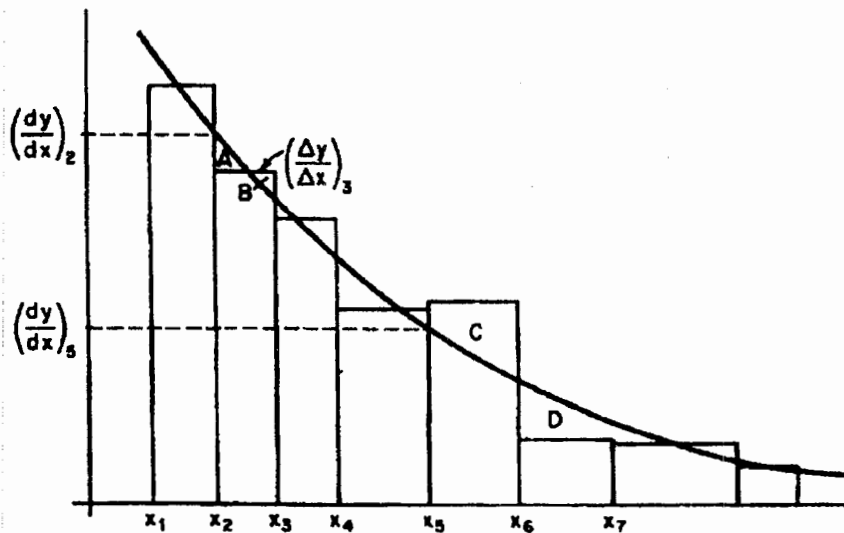

Figure A-1 Equal-area differentiation.
4. Plot these values as a histogram versus x_i . The value between x_2 and x_3 , for example, is $(y_3 - y_2) / (x_3 - x_2)$. Refer to Figure A-1.